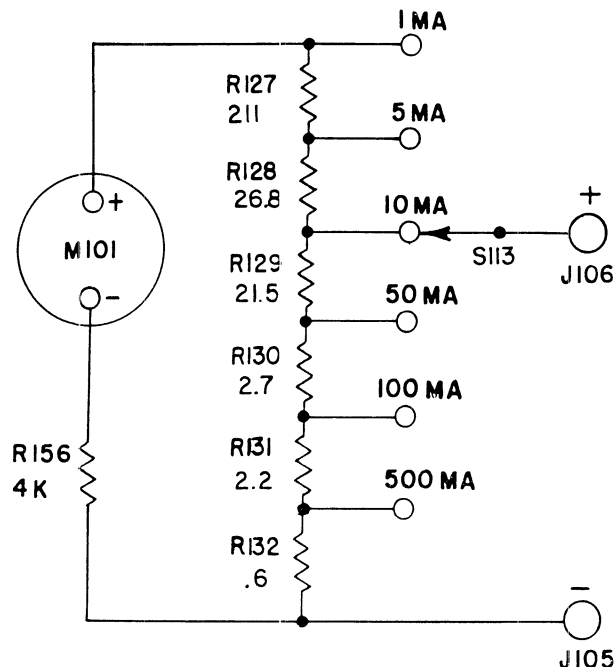
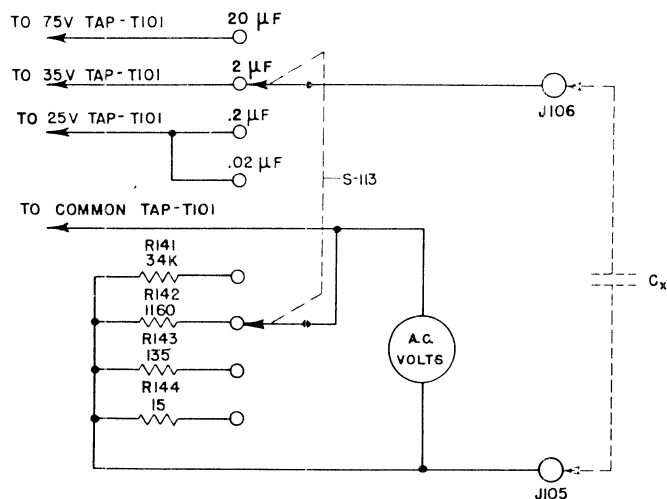

Figure 2-14. Simplified Milliammeter Circuit
Figure 2-15. Simplified Capacity Meter Circuit
d. MILLIAMPERES (See Figure 2-14)
- (1) When the FUNCTION selector switch is turned to the MILS position the basic circuit illustrated by Figure 2-14 is set up. Meter M-101 in series with resistor R-156 is paralleled by the series of calibrated resistors R-127 through R-132.
- (2) Adjustment of the RANGE selector switch applies the current to be measured to the proper tap on the series of resistors.
e. CAPACITY (See Figure 2-15)
- (1) With the FUNCTION selector set at CAP. the test circuit illustrated by Figure 2-15 is established.
- (2) Adjustment of the RANGE switch S-113 permits selection of the four ranges of capacity.
- (3) A standard ac voltage, determined by the setting of RANGE switch S-113, is applied across the unknown capacity  $C_x$  through one of four accurately calibrated resistors R-141, R-142, R-143 or R-144, also selected by the setting of S-113.
- (4) The voltage drop across the series resistor, R-141, R-142, R-143 or R-144, is proportional to the reactance of the capacitor under test and is measured by the meter in terms of capacity in microfarads based on a line frequency of 60 cycles.